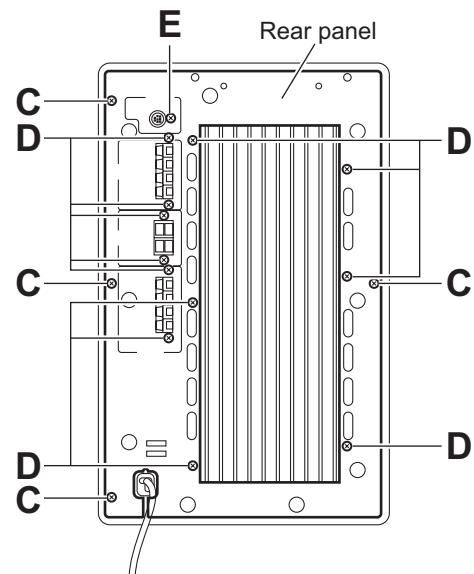

Fig.4
- (2) Remove the four screws **C**, twelve screws **D** and screw **E** attaching the rear panel. (See Fig.4.)